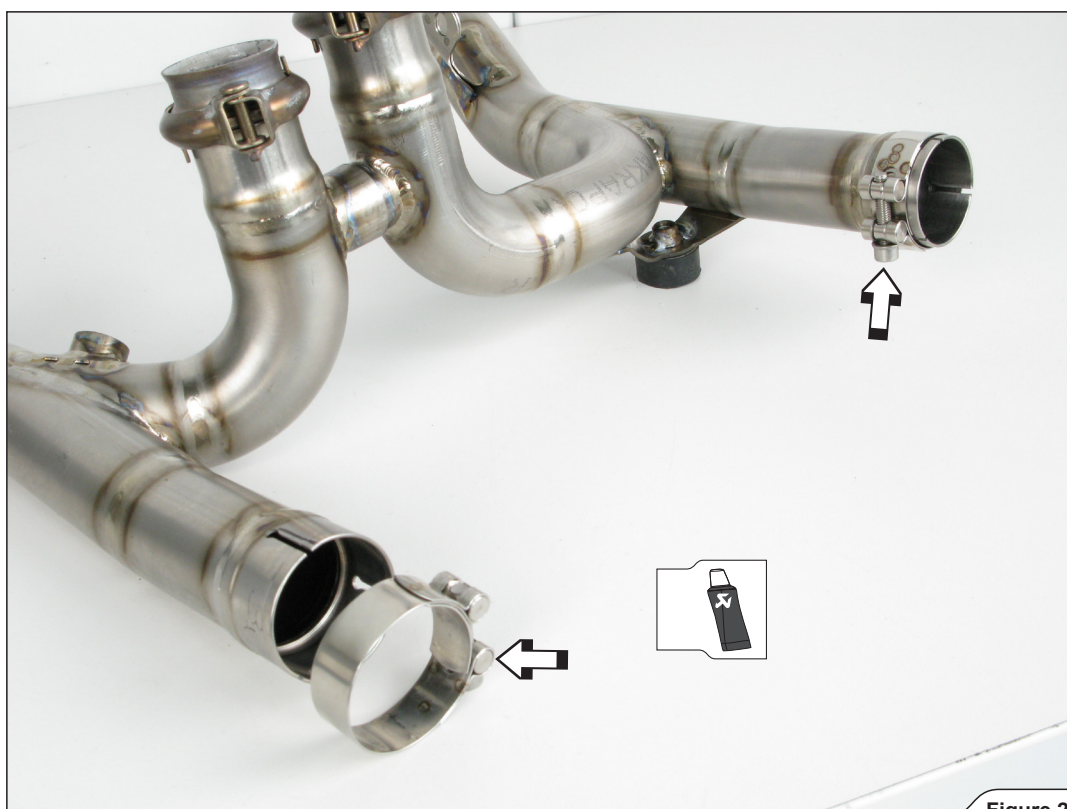

Figure 22
2. **For OPEN SLIP-ON only:** coat the bolts and interior of the metal clamps with Akrapovič anti-seize lead-free copper paste (black tube) and correctly install them onto the Akrapovič collector (**Figure 22**).